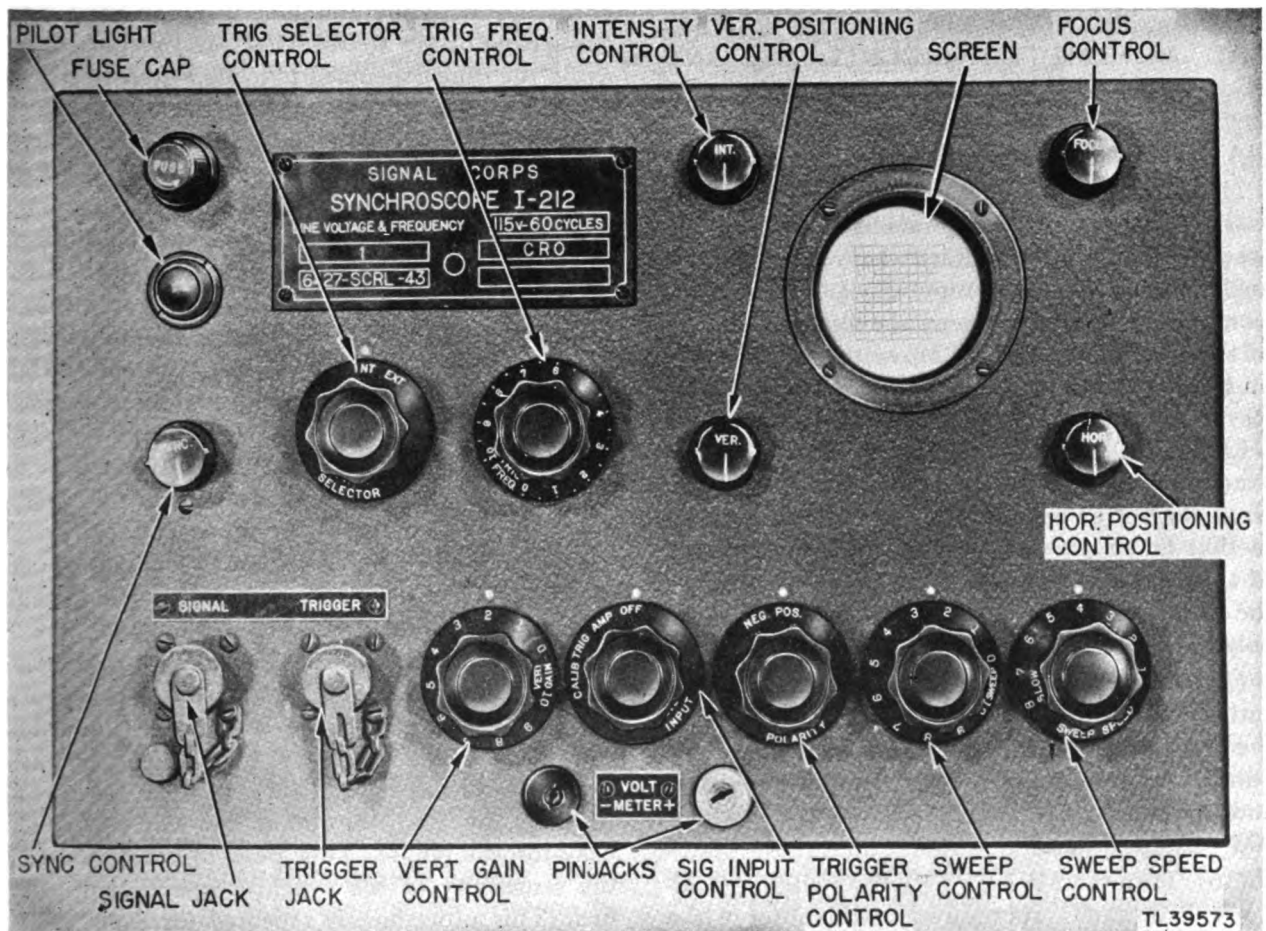

Figure 155. Synchroscope I-212, front panel.
**c. PREPARING SYNCHROSCOPE FOR USE (fig. 155).**
(1) Be sure knob marked INT (intensity and power switch) is turned to its extreme counter-clockwise position.
(2) Insert the synchroscope power cable twist-lock connector into the receptacle at the rear of the instrument and lock it by turning it to the right. Connect the other end to a source of primary power (115 v  $\pm$  5 percent, 60-cycles, single-phase).
(3) Turn the INT knob clockwise about 30° to turn ON the power. The red pilot lamp will light. Wait 30 seconds for the filaments to heat before advancing the knob beyond 30°.
(4) Turn the TRIG SELECTOR (trigger selector) switch to the EXT (external trigger) position.
(5) Turn the TRIGGER POLARITY switch to the NEG (negative trigger) position.
(6) Leave the trigger input and signal input cables disconnected from the TRIGGER and SIGNAL jacks.
(7) Turn the SIG INPUT (signal input) switch to OFF position and the SWEEP SPEED selector switch to position 1, thus adjusting for a 5-microsecond sweep. A spot will appear on the screen of the cathode-ray tube.
(8) Adjust INT control for a suitable intensity; focus clearly by adjusting the FOCUS control.
(9) Deflect the spot from the extreme left to extreme right of the screen by use of the HOR (horizontal) control, and from bottom to top by